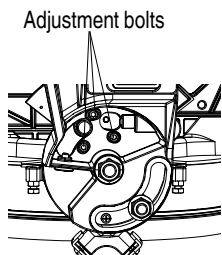

Fig. 20-c
9. 90° Indicator (For bevel scale) adjustment (Fig. 20-b)